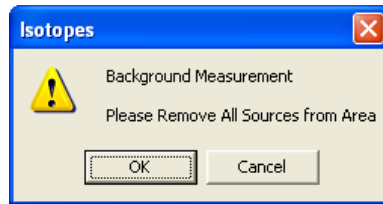

Figure 6-11
8. When the procedure is started, the screen appears as shown in Figure 6-11.